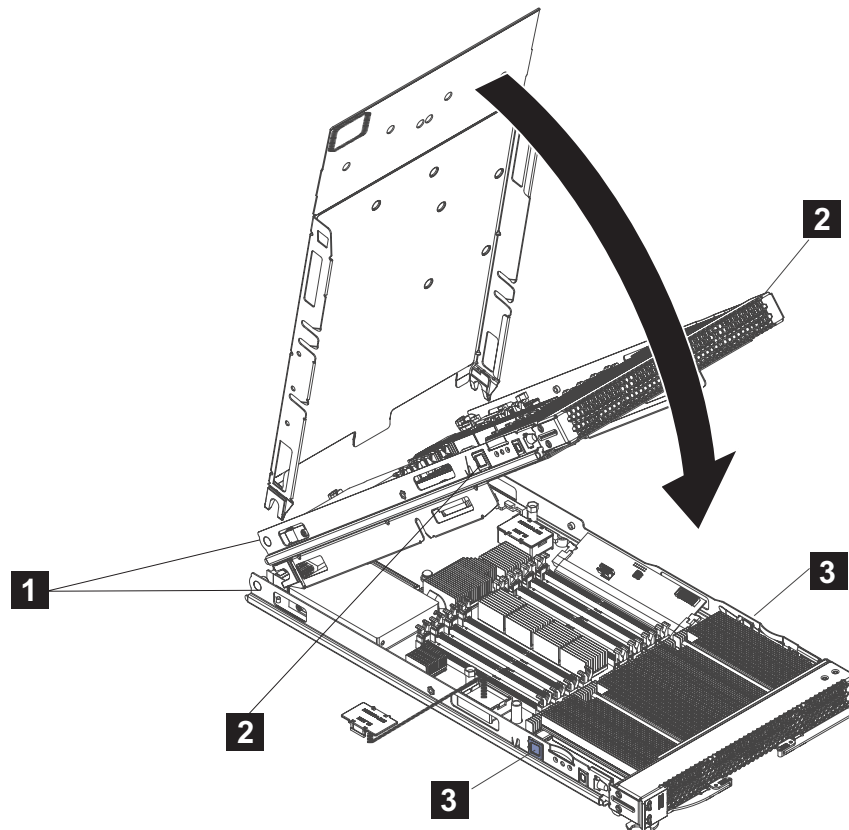

Figure 14. Installing the cover
2. Lower the cover so that the slots at the rear slide down onto the pins ( **1** in Figure 14 on page 260) at the rear of the blade server. Before you close the cover, verify that all components are installed and seated correctly and that you have not left loose tools or parts inside the blade server.